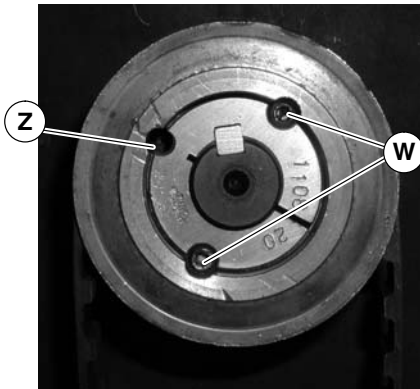
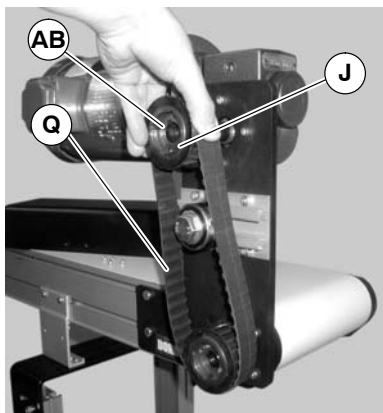

Figure 16
Figure 17
NOTE: If drive pulley (J of Figure 17) is replaced, wrap timing belt around drive pulley and complete step 3.
4. Loosen taper-lock screws (W of Figure 16) and remove drive pulley: Insert one (1) of taper lock screws (W) in remaining hole (Z). Tighten screw (W) until pulley is loose. Remove pulley (J of Figure 17), taper hub assembly (AB), and timing belt (Q)
NOTE: Drive pulley (J of Figure 17) is removed. Wrap timing belt around drive pulley and complete step 12.